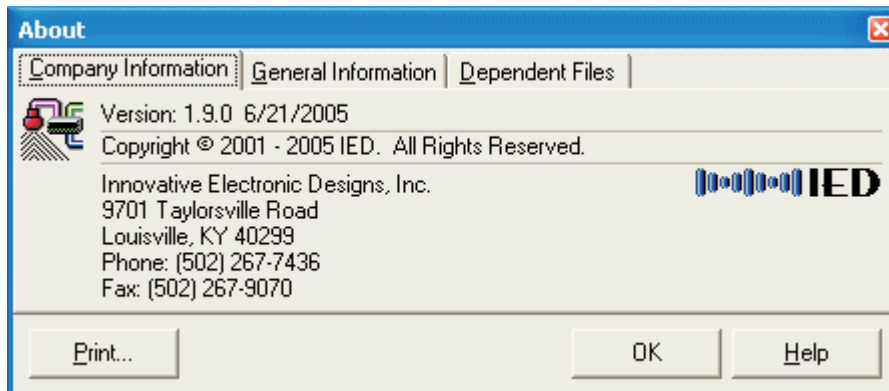

Figure 61 - About window
**Company Information** (See Figure 61)